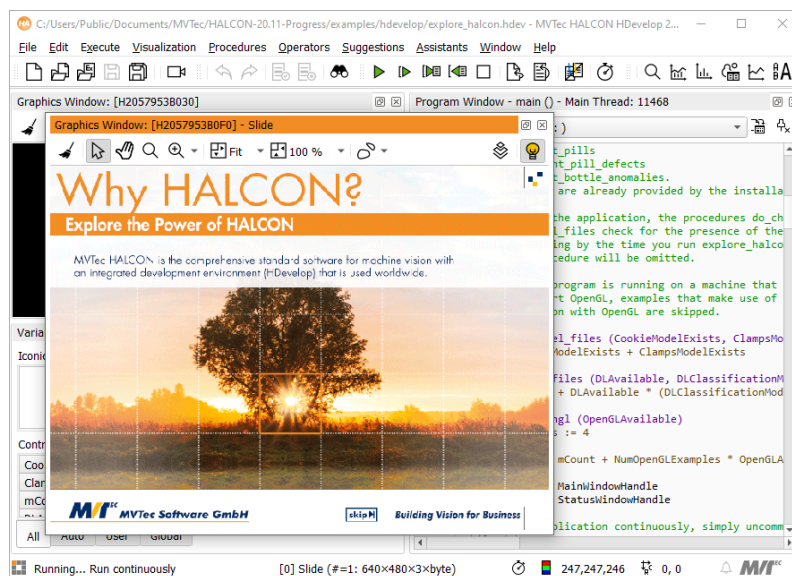

Figure 2.3: Explore the power of HALCON.
“Explore the Power of HALCON” starts up automatically when loaded from the start dialog. After loading it manually or loading one of the other example programs click  or press `[F5]` to start it, see figure 2.3 (1).